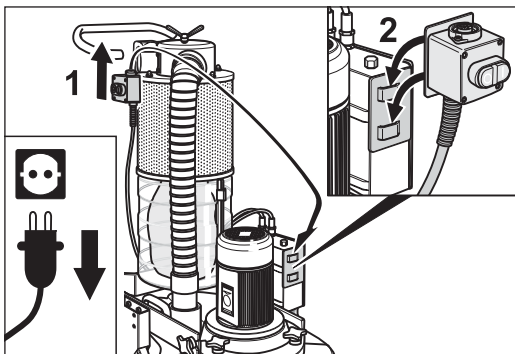

Fig. 64 Hook the on/off switch into the transport holder on motor switch box.
- 4** Remove the on/off switch from the chassis (fig. 64, 1) and hook it into the transport holder on motor switch box (fig. 64, 2).